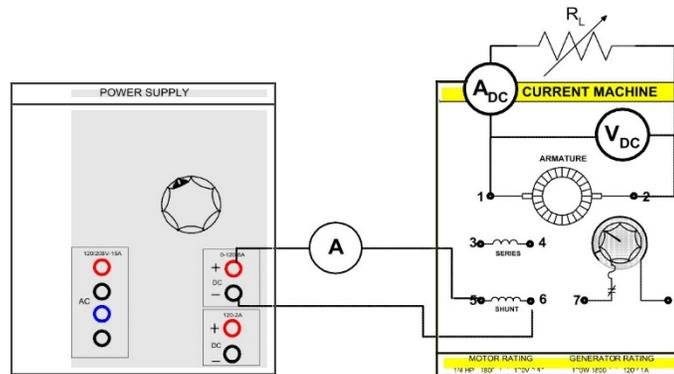

FIGURE 12.10
Step 9: Using your EMS Resistance Module, connect the circuit shown in Figure 12.10. Place the resistance switches so that the total load resistance is 120 ohms.